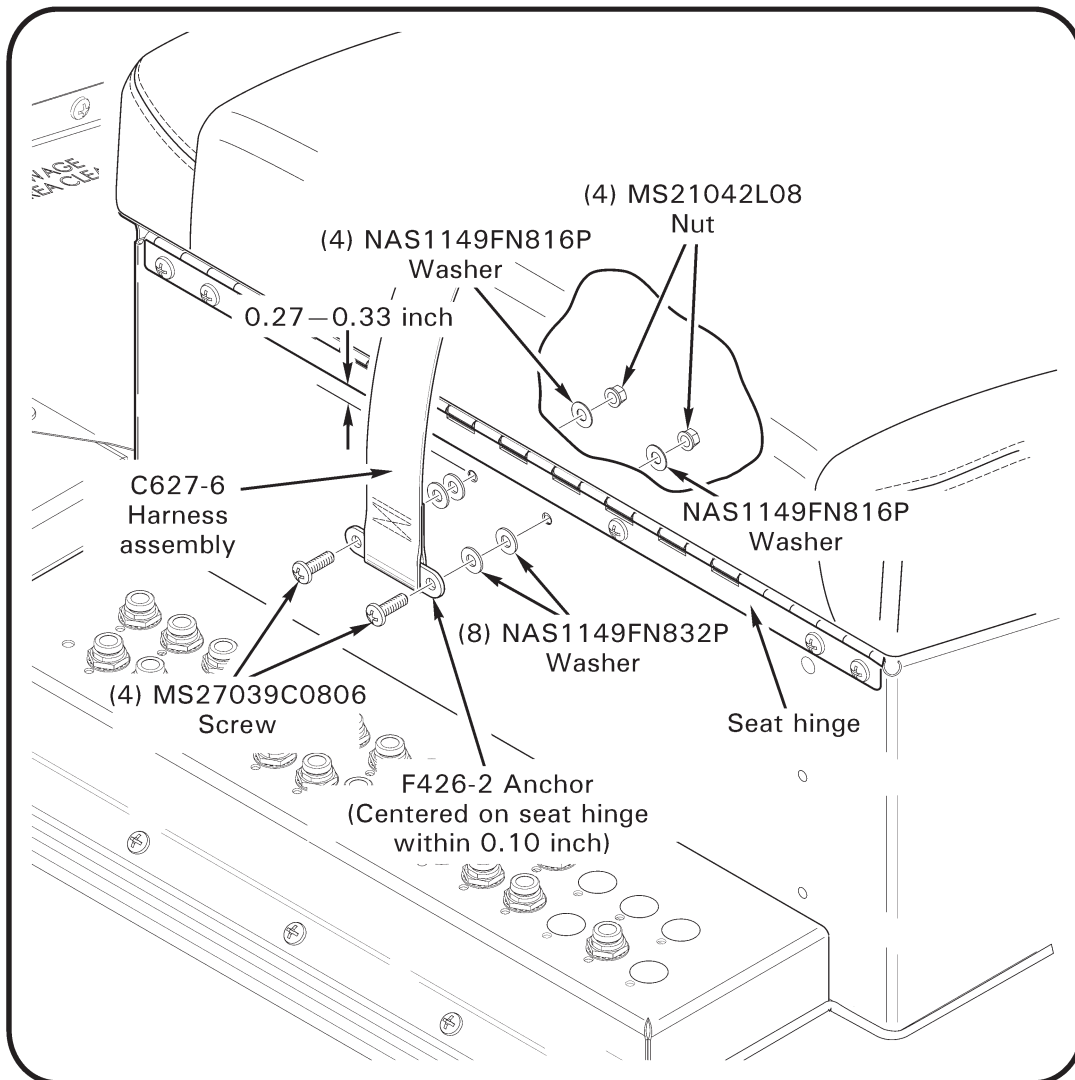

FIGURE 5
10. Refer to Figure 5. Perform the following on LH and RH sides of helicopter: Using fifth-point F426-2 anchor mounting holes as pilot holes, center anchor under seat hinge as shown and drill (2) 0.170-inch diameter holes thru C290-4 or C297-5 seat support. Install hardware securing fifth-point to seat support and verify security.
(LH side with LED assembly; same as Figure 5 except as shown)